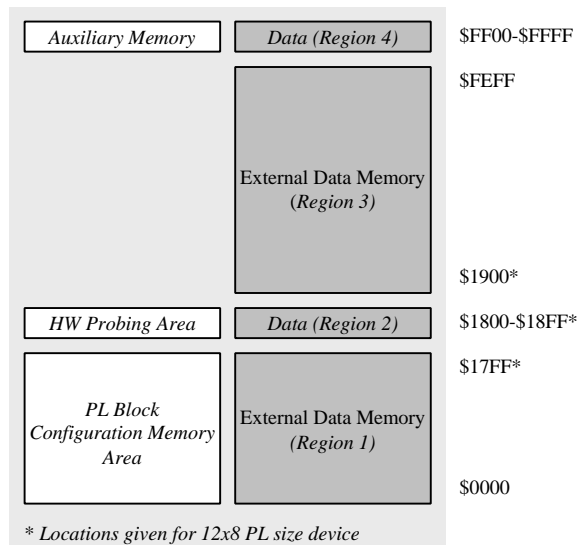

Fig. 1.4: External Data Memory Space
The external data memory address space is divided into four different areas (as shown in figure 1.4):
- Up to 64 Kbytes of external data memory area (this memory is represented in four regions in figure 1.4)